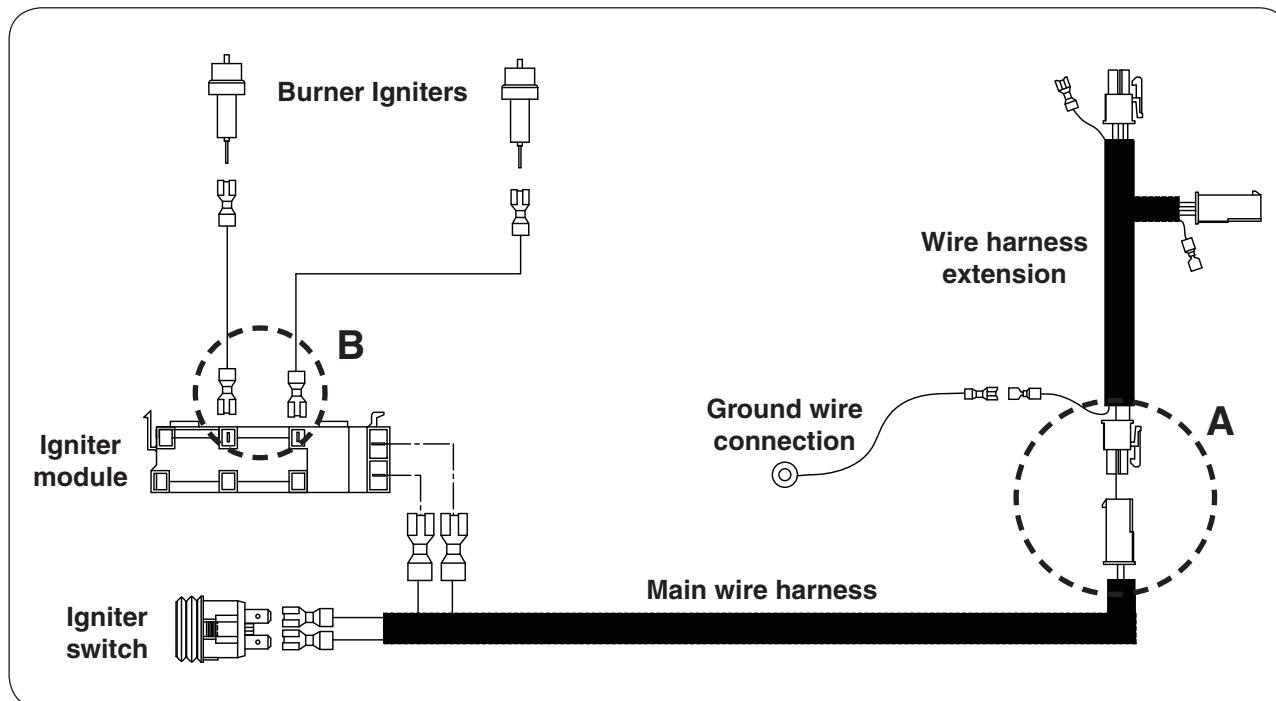

Fig. 24-1 - Wire diagram
6. Disconnect the main wire harness connections (Fig. 24-1, A) and the igniter wires (Fig. 24-1, B). It is recommended to temporarily label the wires for reference when reconnecting. See Fig. 24-1. When disconnecting, be sure to pull from the connectors, and not the wires.